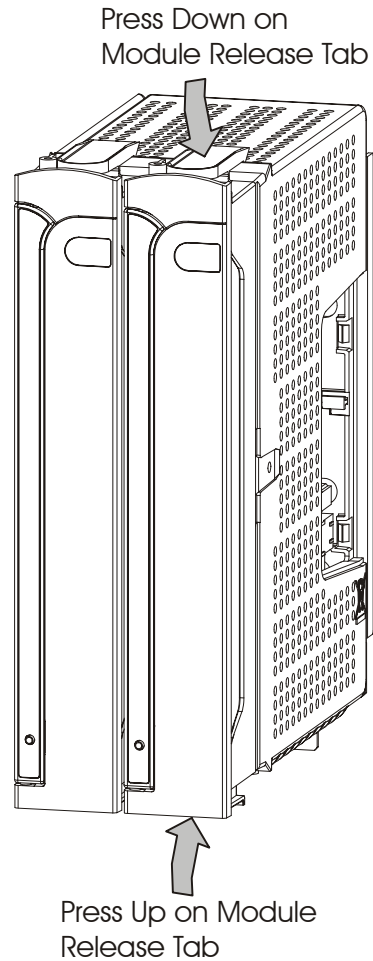

Figure 21-1 ACE3600 Module Release Tabs
3. Simultaneously press on the tabs on the top and bottom of the plastic front of the old module, and pull the module from its slot. See Figure 21-1.